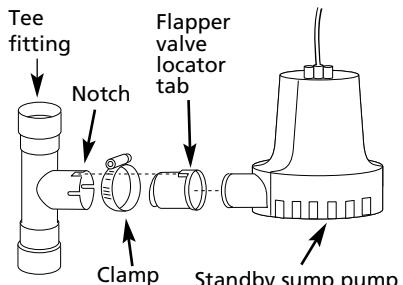
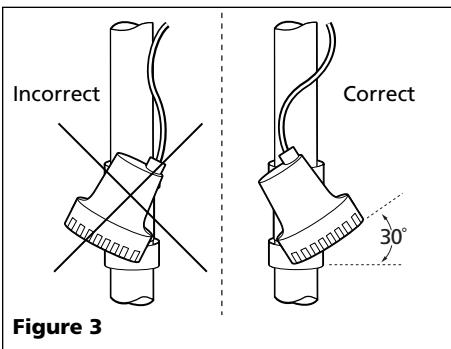

Figure 2
Figure 3
the up direction arrow on the tee; the notch must be to the top or flapper valve will not work (see Figure 2).
5. Insert flapper valve into tee. Be sure locator tab is in the notch in tee (see Figure 2).
7. Insert pump into flapper valve, tilt pump 30°. When tilted, side with power cord should be up (see Figure 3). Tighten clamp around the pump and flapper valve (see Figure 2).
Pump must be tilted as shown in Figure 3 to prevent air locking.